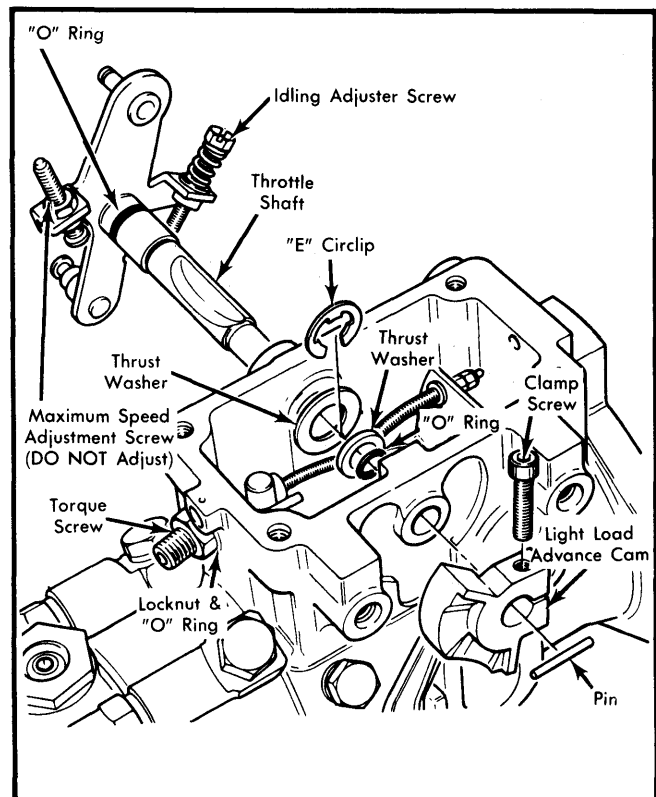

Fig. 12 CAV Injection Pump Throttle Shaft and Seals
5) Remove clamping screw from light load cam and remove cam. Remove any burrs on end of shaft. Remove "E" circlip from throttle shaft. Pull throttle shaft out of pump. See Fig. 12.
7) Lubricate shaft and new "O" ring. Install larger "O" ring using protector (J-33097). Slide shaft through until thrust washers can be installed on shaft in their original positions. Using protector (J-33098), install smaller "O" ring and fully install shaft into pump. See Fig. 12.